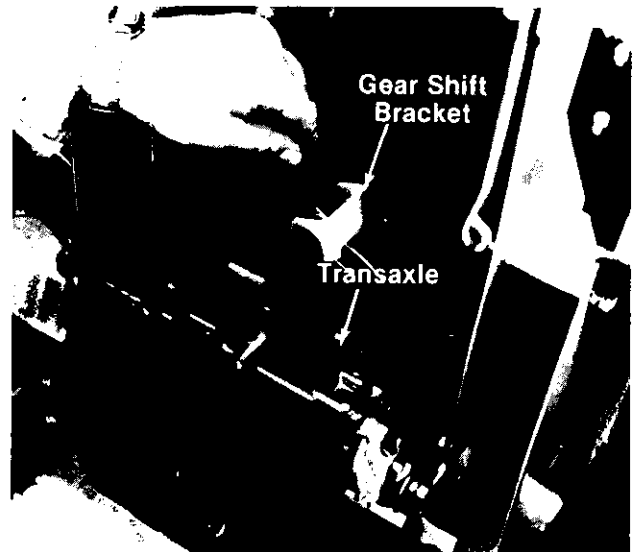

FIGURE 33.
6. Idler belt guide tab must be positioned in hole in idler arm upon reassembly. See figure 33.
2. Disconnect the gear shift bracket from the transaxle. See figure 33.